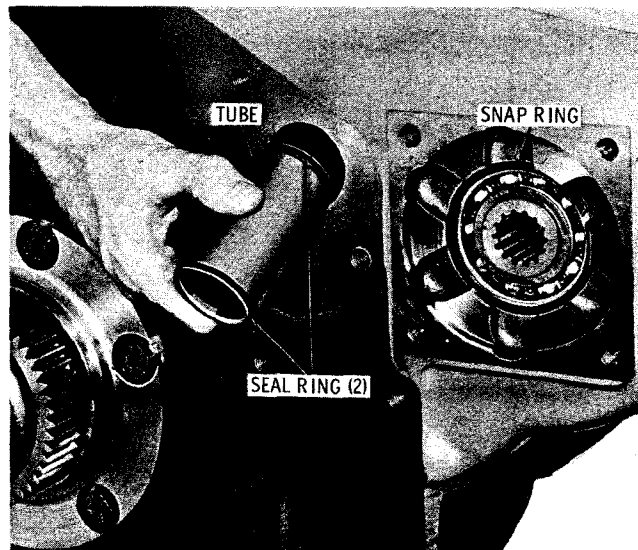

Fig. 7-33. Installing oil suction tube
(4) Install the snap ring which retains the pump drive rear bearing (fig. 7-33).
(5) Install new seal rings onto the oil suction tube (fig. 7-33). Lubricate the seal rings with oil-soluble grease. Install the tube, deeper grooved end first, into the converter housing. Drive the tube inward (forward) until the rear end is recessed 0.010 to 0.040 inch below the rear surface of converter housing.